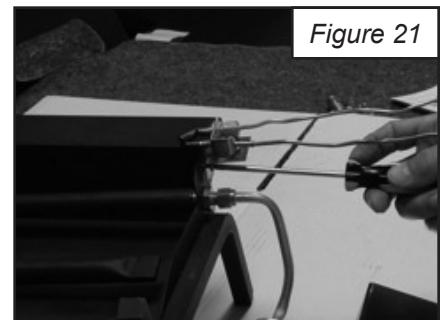

Figure 21
5. Attach the pilot bracket (Part # 8) to the burner pan using the sheet metal screw (Part # 9). (See Figure 21)